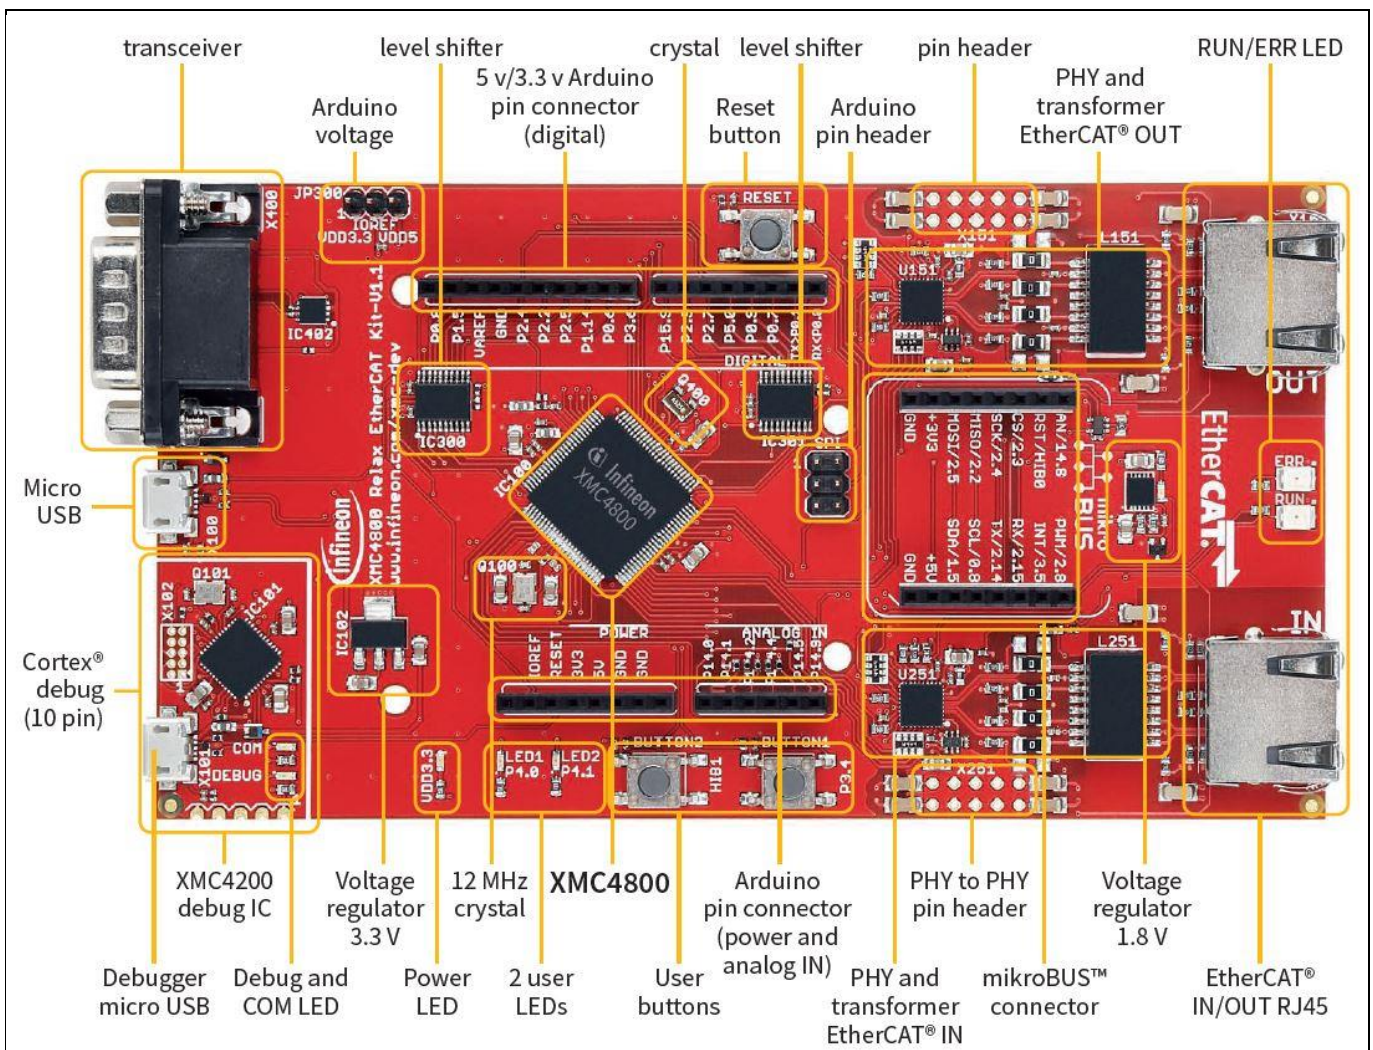

Figure 3 XMC4800 IoT Connectivity Kit
2. Power up the kit by connecting Micro USB cable between PC and Debugger micro USB. For placement of Debugger micro USB refer Figure 3.
1. Connect the micro USB cable between PC and micro USB. For placement of micro USB refer Figure 3.